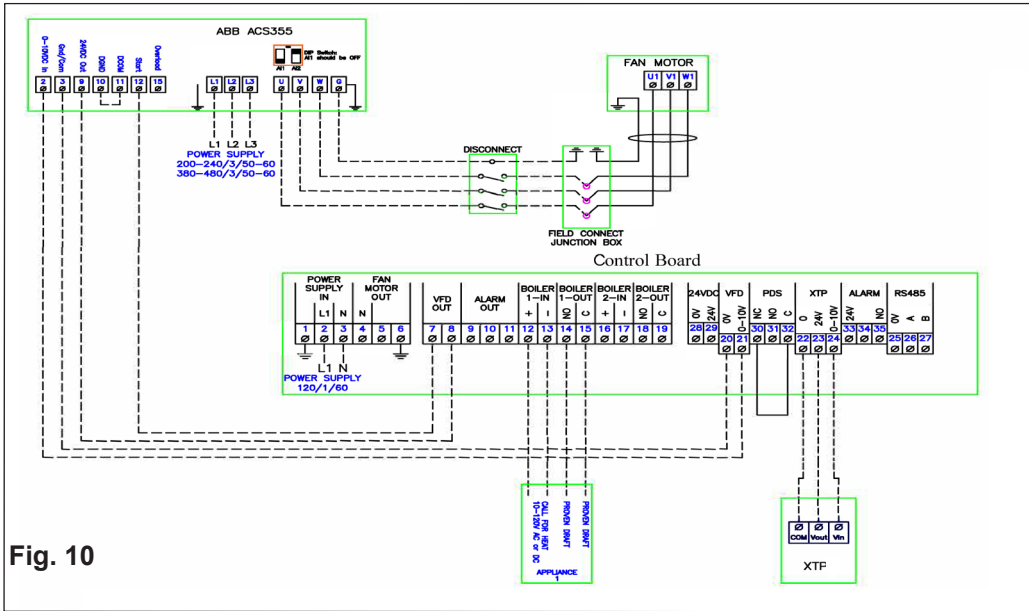

Fig. 10
- ▶ If using a 3-phase fan and VFD, connect the VFD to terminals 20 and 21 as shown in Fig. 10 and 11. **DO NOT** connect the fan directly to the EBC24 control.
- ▶ If using a 3-phase fan and VFD, connect the VFD to terminals 20 and 21 as shown in Fig. 10 and 11.
To connect the 3-phase fan and variable frequency drive (VFD), connect the VFD to terminals 20 and 21 of the EBC24. **DO NOT** connect the fan directly to the control. Wire the ABB ACS355 series variable frequency drive according to fig. 10.